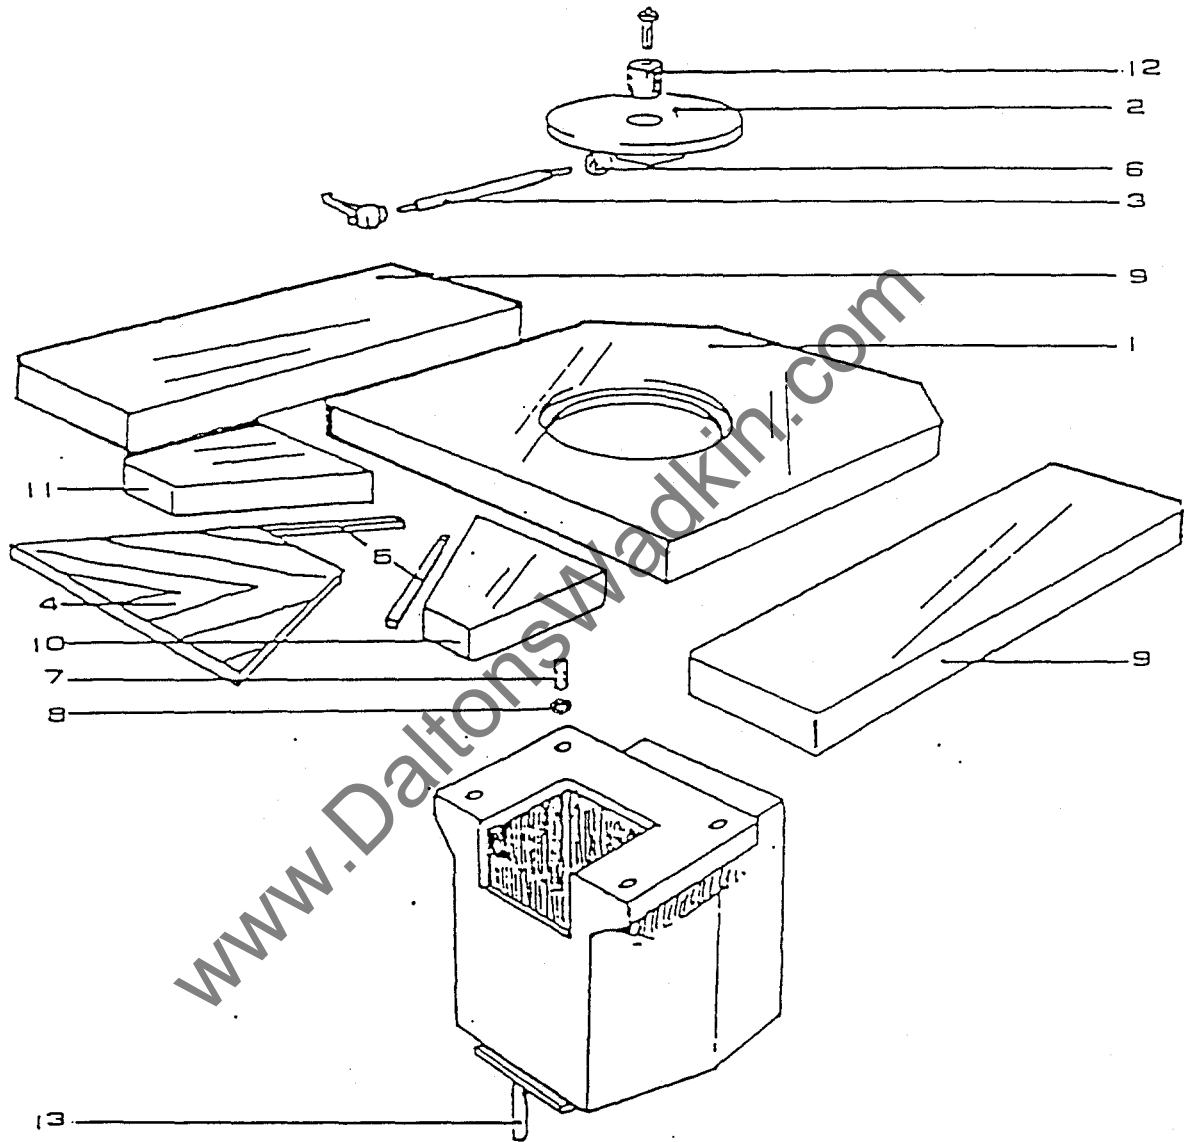

FIG. 25 PLAIN TABLE MACHINE UX/1
8.6 PLAIN TABLE BASIC PARTS LIST MACHINE UX/1 (See Figure 25)